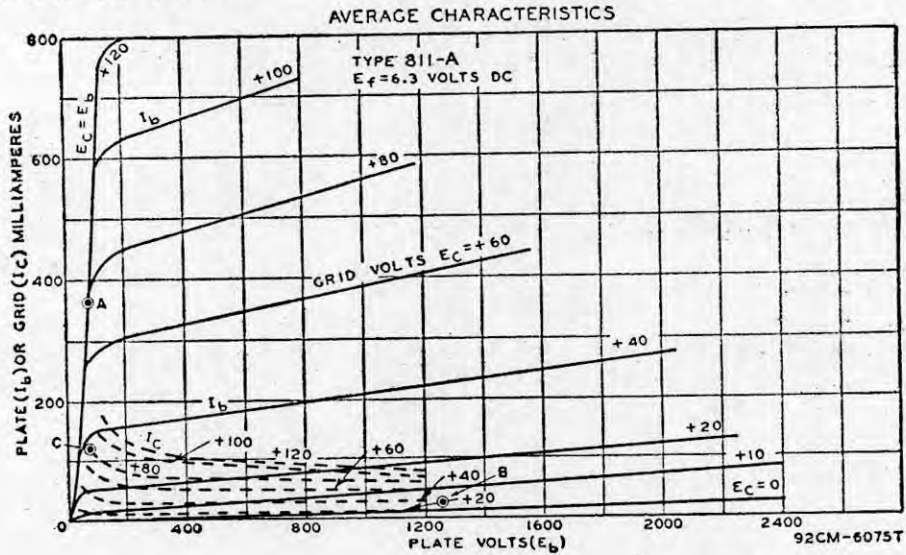

Fig. 48
Calculate operating values for the RCA-811A for linear rf power amplifier service under ICAS conditions. Refer to Fig. 48 for curve values.
- (1) Select $E_b = 1250$ volts.
- (2) Calculate: $I_{be} = 0.9 P_{Ine} / E_b = 0.9 \times 165 / 1250 = 0.12$ ampere.
- (3) Calculate: $I_{bmax} = 3 I_{be} = 3 \times 0.12 = 0.36$ ampere.
- (4) Calculate: $I_b = I_{be} / 1.4 = 0.12 / 1.4 = 0.09$ ampere.
- (5) On Fig. 48 locate $I_{bmax} = 0.36$ ampere at Point A. Read $E_{cmax} = 80$ volts; $E_{bmin} = 80$ volts.
- (6) Calculate $I_{b0} = I_{be} / 5 = 0.12 / 5 = 0.024$ ampere.
- (7) $P_{Ine} = E_b I_{be} = 1250 \times 0.120 = 150$ watts.
- (8) Calculate: $PEP = (I_{bmax} / 4) (E_b - E_{bmin}) = (0.36 / 4) (1250 - 80) = 0.09 (1170) = 105$ watts.
- (9) $P_p = 0.7 P_{Ine} - 0.5 PEP = (0.7) 150 - (0.5) 105 = 52.5$ watts.
- (10) Record: $E_g = E_{cmax} = 80$ volts.
- (11) On Fig. 48 locate $I_{cmax} = 0.12$ ampere at Point C.
- (12) Calculate: $I_{ce} = I_{cmax} / 3 = 0.12 / 3 = 0.04$ ampere.
- (13) Calculate: $I_c = I_{ce} / 1.4 = 0.04 / 1.4 = 0.028$ ampere.
- (14) Calculate: $P_d = E_g (I_{cmax} / 4) = 80 (0.12 / 4) = 2.4$ watts.